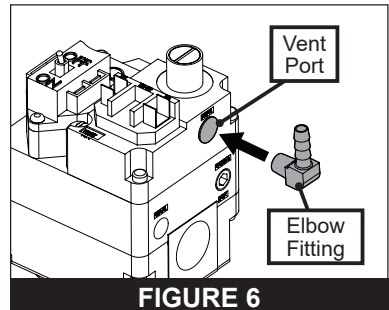

FIGURE 6
2. Install the provided Elbow Fitting into the Vent Port of the new Gas Valve. Refer to **FIGURE 6**.